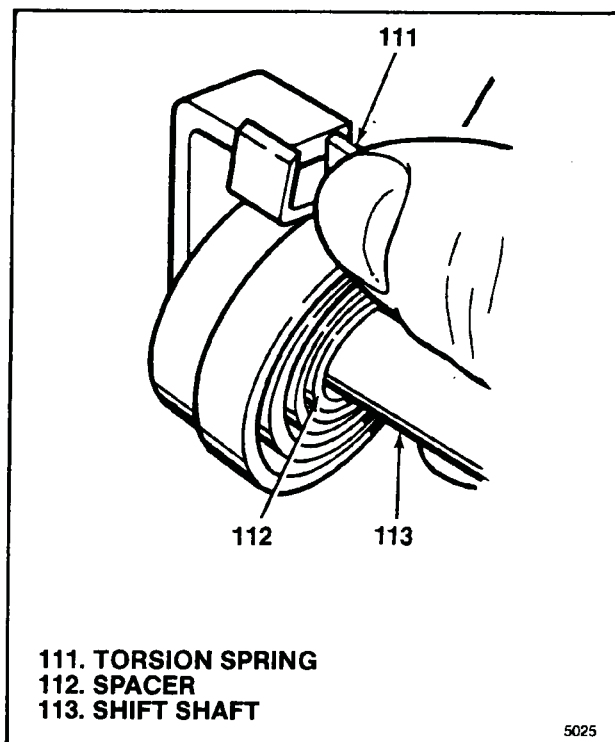
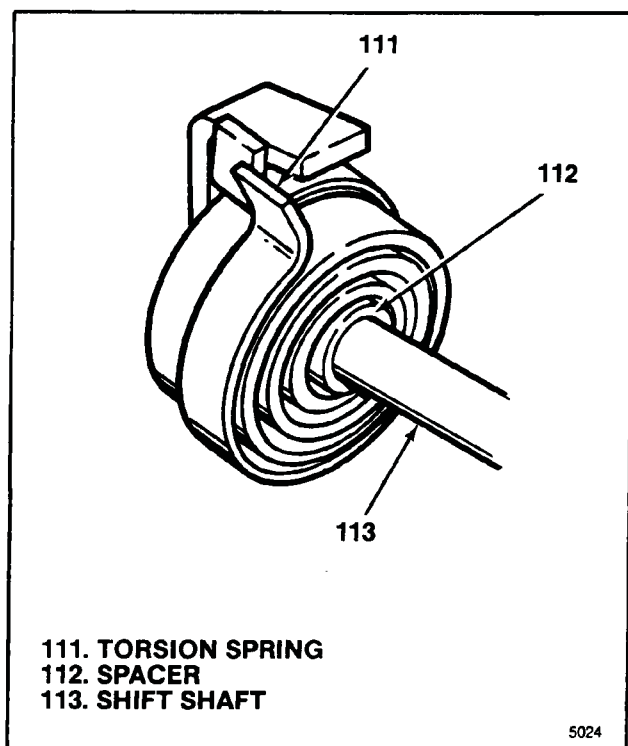

Figure 5-5. Installing Second Spring End
Figure 5-4. Installing First Spring End
- a. Insert spacer (112) in torsion spring (111) ID and install over free end of shift shaft (113).
- b. Slide torsion spring (111) and spacer (112) on shift shaft (113) up to drive tang and position first spring end to left (viewed from free end of shaft) of drive tang (see figure 5-4).
- c. Twist second spring (111) end to right of drive
tang on shift shaft (113) (see figure 5-5).